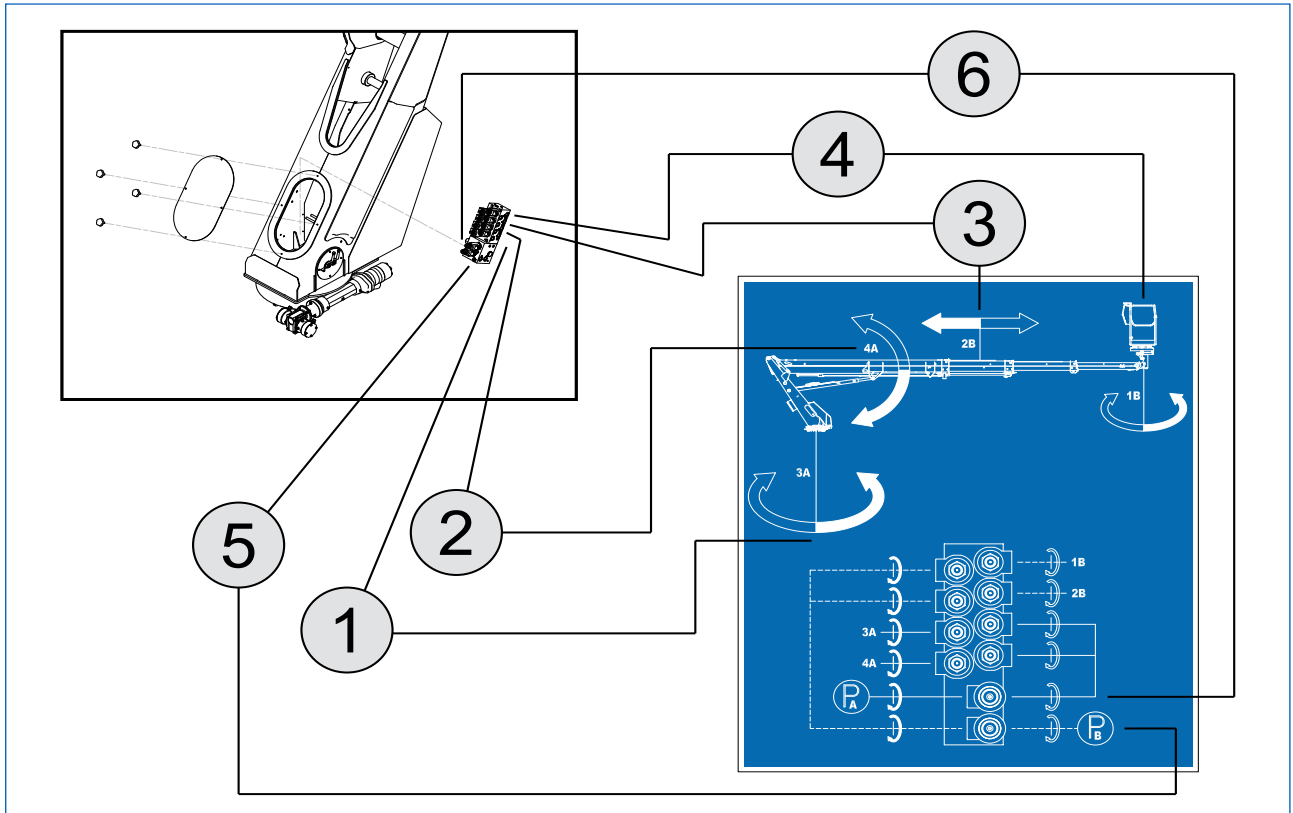

Fig. 4.6
- two are in the command panel in the work platform (Fig. 4.6).